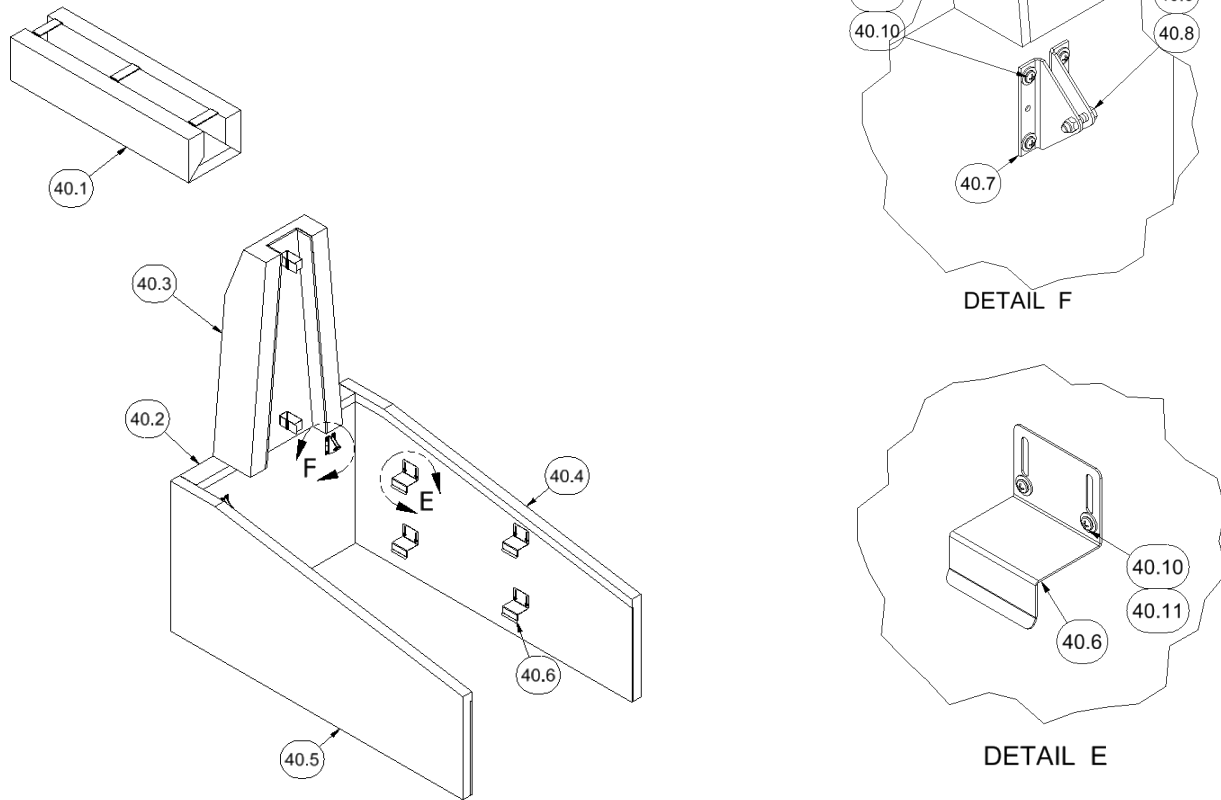

Figure 26
1. Install (2) Pad Hinge Brackets, item 40.7, to each side of the Front Lower Pad, item 40.2, using 1/4-20 Machine Screw and Flat Washer as shown in figure 26, detail F. The 1/4" Screws will engage the threaded holes in the back of the Pad. Adjust Screw in slot to be centered before tightening. Additional adjustment may be required to match the height of Side Pads in step 4.
2. Install the (4) Pad Clips, item 40.6, to the Side Pads, item 40.4 and 40.5 as shown in figure 26, detail E. The 1/4" Screws will engage the threaded holes in the back of the Pad.